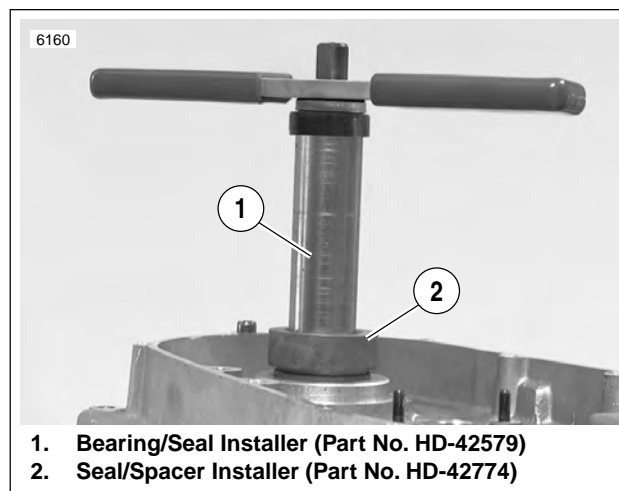

Figure 3-138. Install Bearing Seal/Spacer
11. See Figure 3-138. Install bearing seal and spacer.
- a. Center seal/spacer driver (2) over seal, so that the sleeve (smaller OD) seats between seal wall and garter spring.
- b. Assemble **SPROCKET SHAFT BEARING/SEAL INSTALLATION TOOL** (1) (Part No. HD-42579) and **SPROCKET SHAFT SEAL/SPACER INSTALLER** (Part No. HD-42774) onto sprocket shaft. Follow procedure in Step 8.